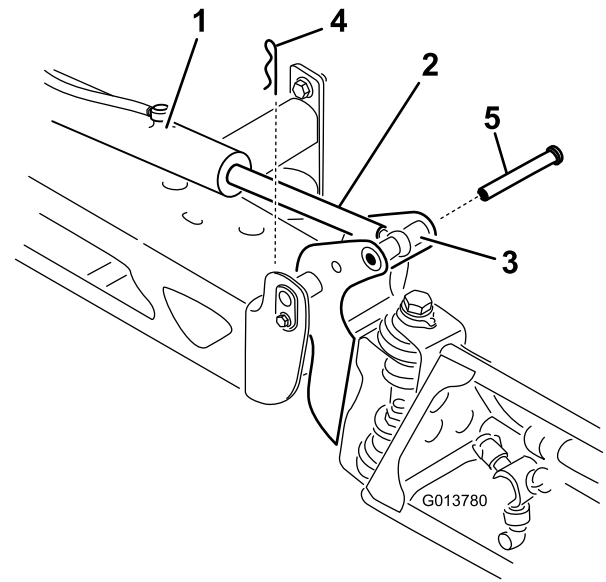

Figure 69
2. Remove the hairpin from the clevis pin (Figure 69).
3. Lift up on the section, remove the clevis pin, and slowly lower the section to the ground (Figure 69).
7. While supporting the spray section, insert the clevis pin through both boom pivot and actuator rod (Figure 69).